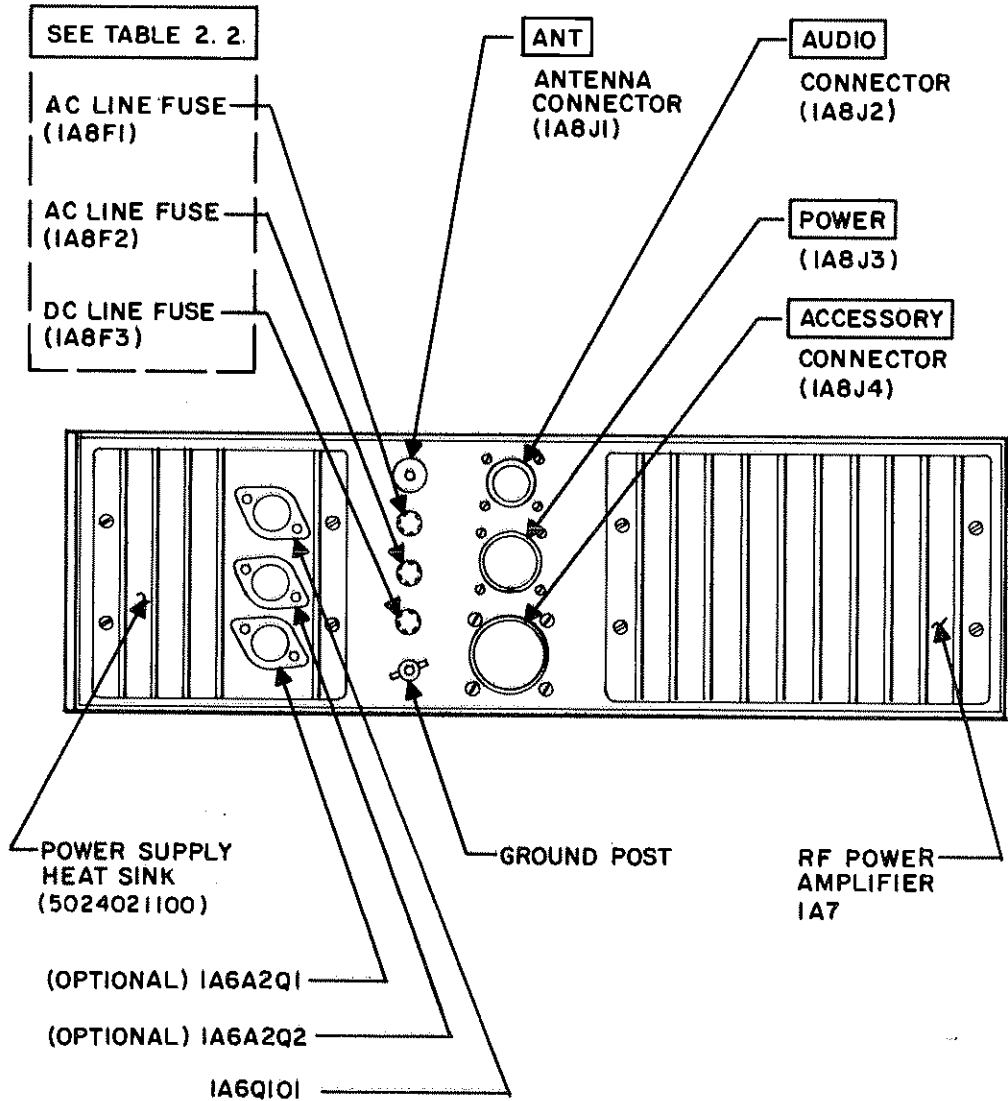

Figure 3.2 GSB-900 Rear Aprons Components and Connectors
3.3.1 Refer to Figure 3.2 for location